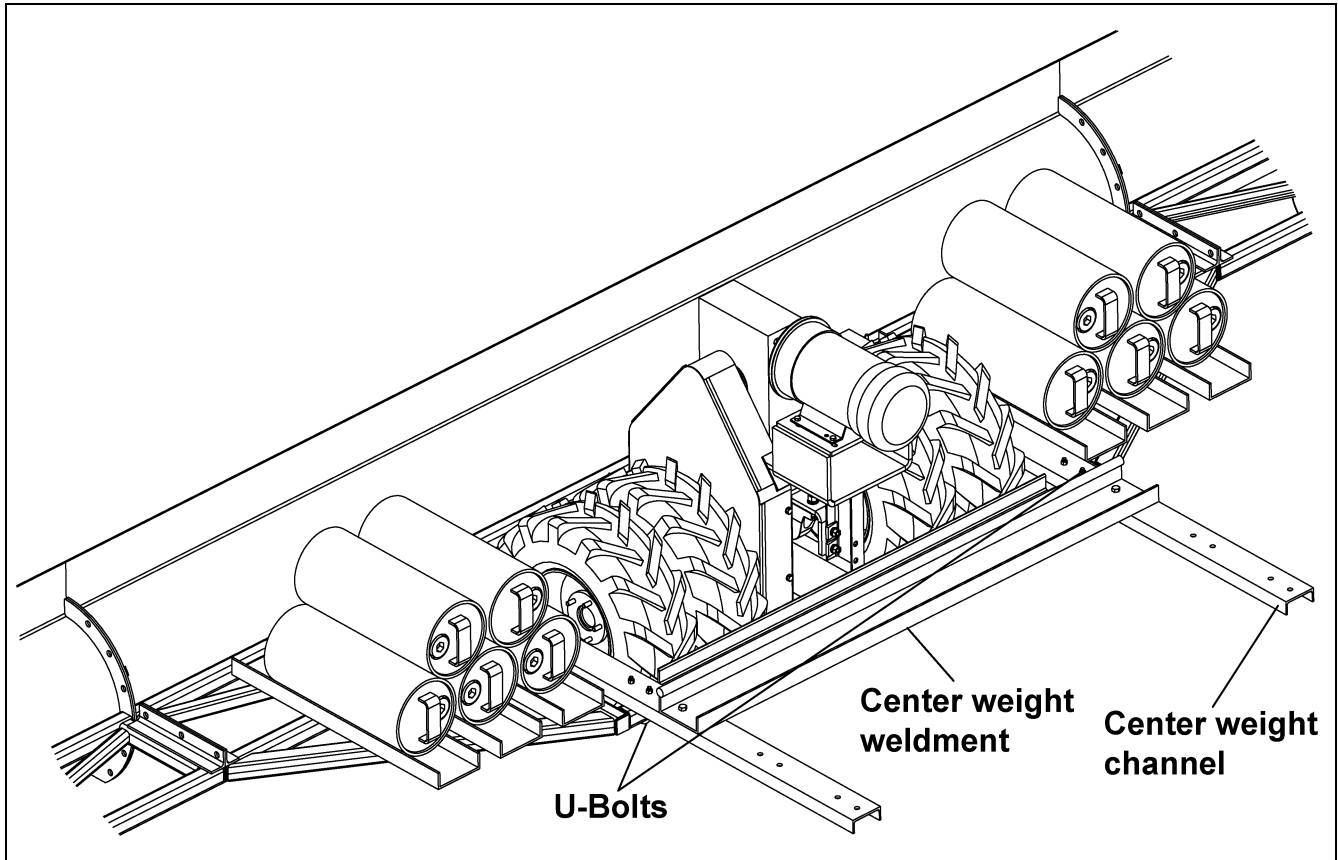

Figure 5S
- B. Attach the center weight weldments to the adjustable center weight channel using eight (8) 1/2" x 1-1/4" bolts, split lock washers and hex nuts. The adjustable center weight has three (3) sets of holes for the center weight weldments to adjust the weights. (See Figure 5S.)